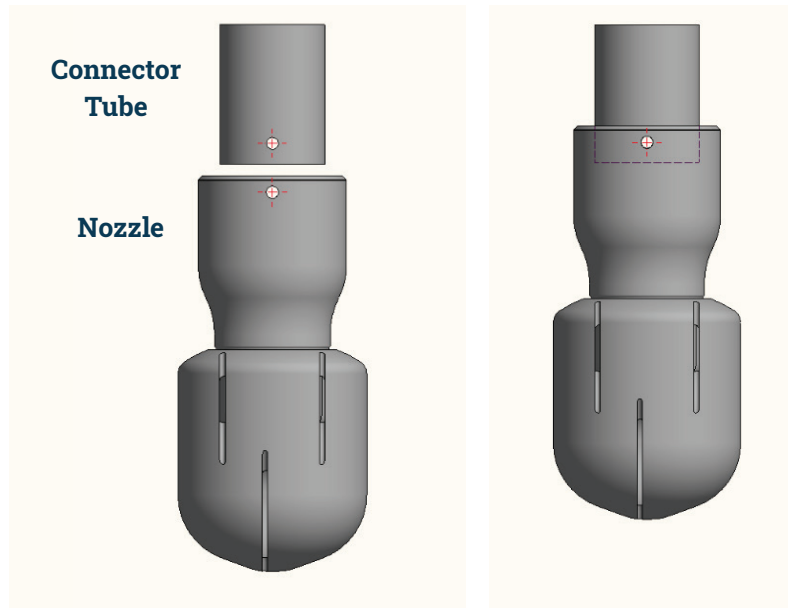

Figure 4 - Preparation for Installation
1. Align pin holes in connector tube with pin holes on nozzle (Figure 4).